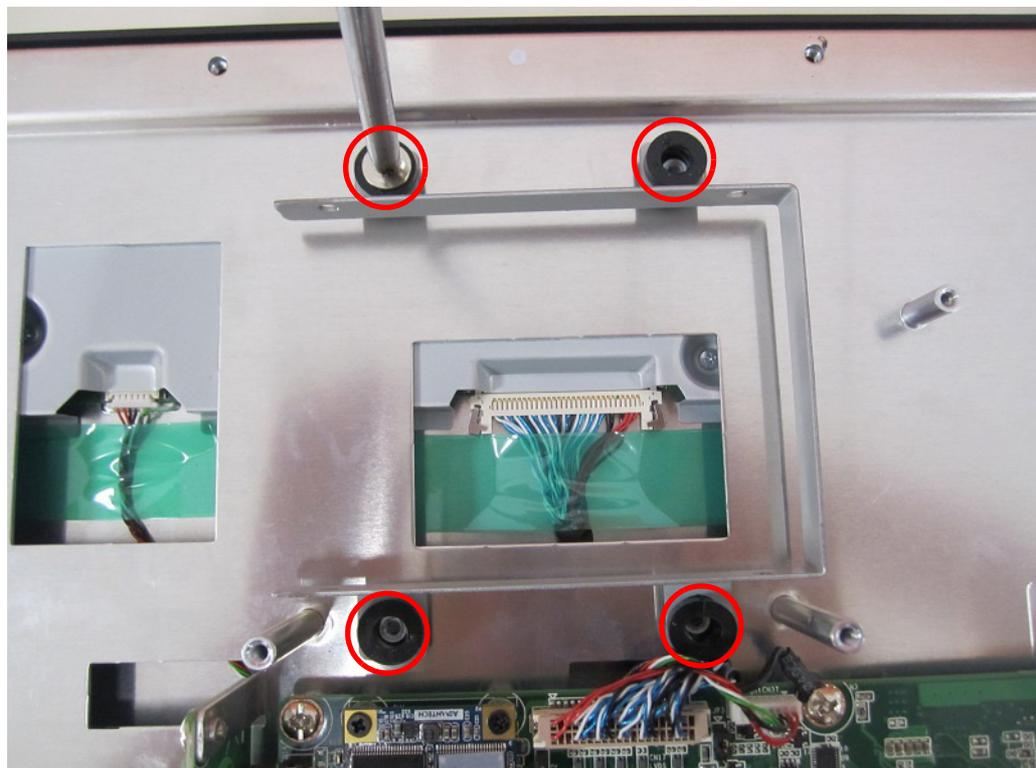

Figure 2.10
3. Unscrew the four screws on HDD cover and remove it. (See Figure 2.10)